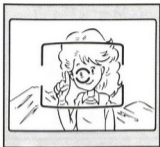

Fig.11 Abb.11 圖.11
1. Set the subject you wish to take within the Auto-Focus Frame in the center of the Viewfinder. **(Fig. 11)**